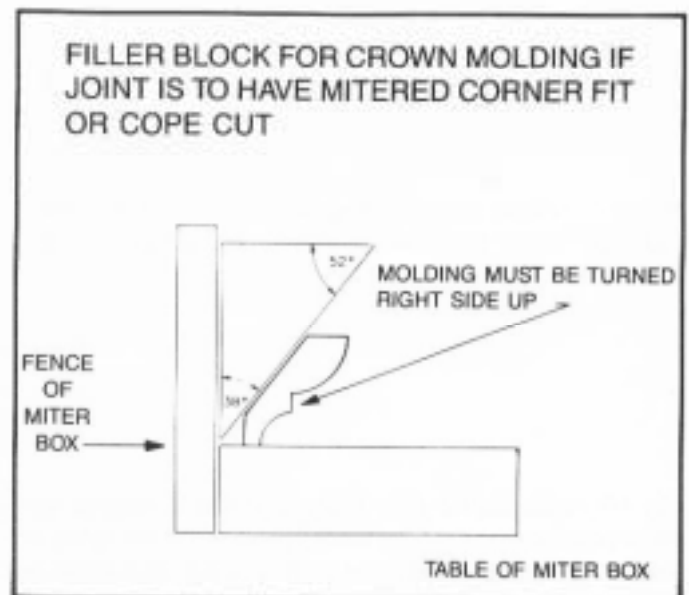
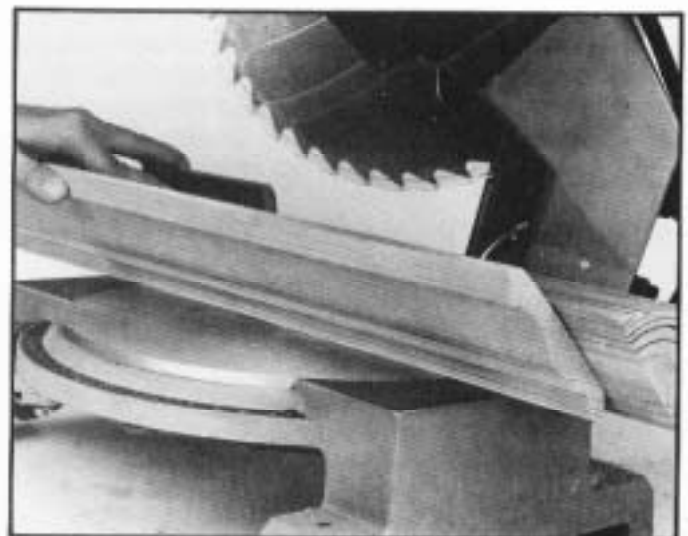

Fig. 56
Fig. 57
2. When a large number of repetitive cuts of crown moulding are required we suggest the use of filler blocks, as shown in Fig. 54 through Fig. 57. The majority of crown mouldings have contact surfaces at 52 and 38 degrees to the rear surface of the moulding and these angles must be utilized when jointing the face of the filler block. For crown mouldings with different angles, appropriate filler blocks can be produced.
4. Fig. 56 and Fig. 57, illustrate the filler block fastened to the miter box fence with the face of the filler block extending inward toward the fence from the top to the bottom. When the filler block is positioned in this manner, the crown moulding is placed on the table in the same position as it would be when nailed between the ceiling and wall.